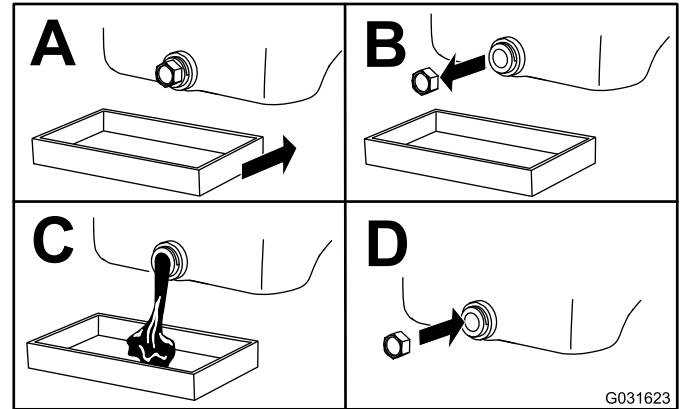

Figure 25
- A. Remove the drain plug and allow all of the existing oil to drain out of the engine (Figure 25).
- B. Install the drain plug (Figure 25). Torque the plug to 13.6 N·m (10 ft-lb).